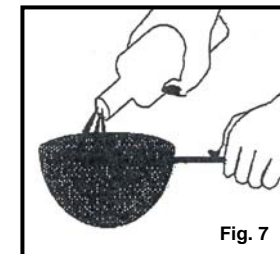

Fig. 7
- Wash and dry the oil container and basket. Refill the oil container with the oil, pouring the oil through a wire strainer or paper filter. (Fig. 7)